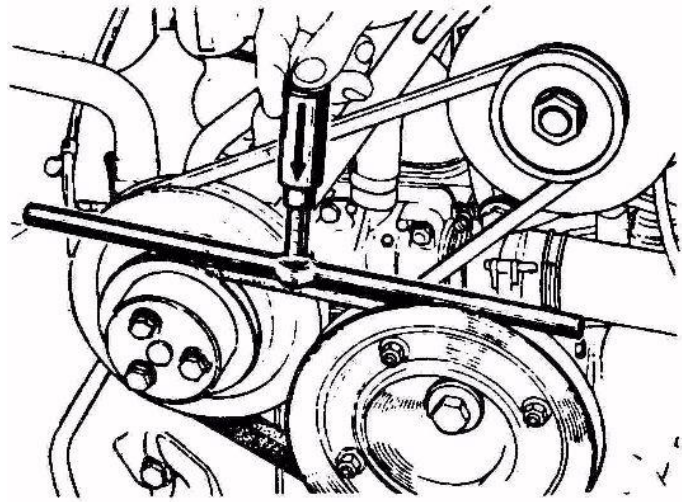

Fig. 6 - Water Pump Vee Belt Adjustment.
- Check the belt deflection by means of tool (Part No 46M 6206) (see fig. 6).